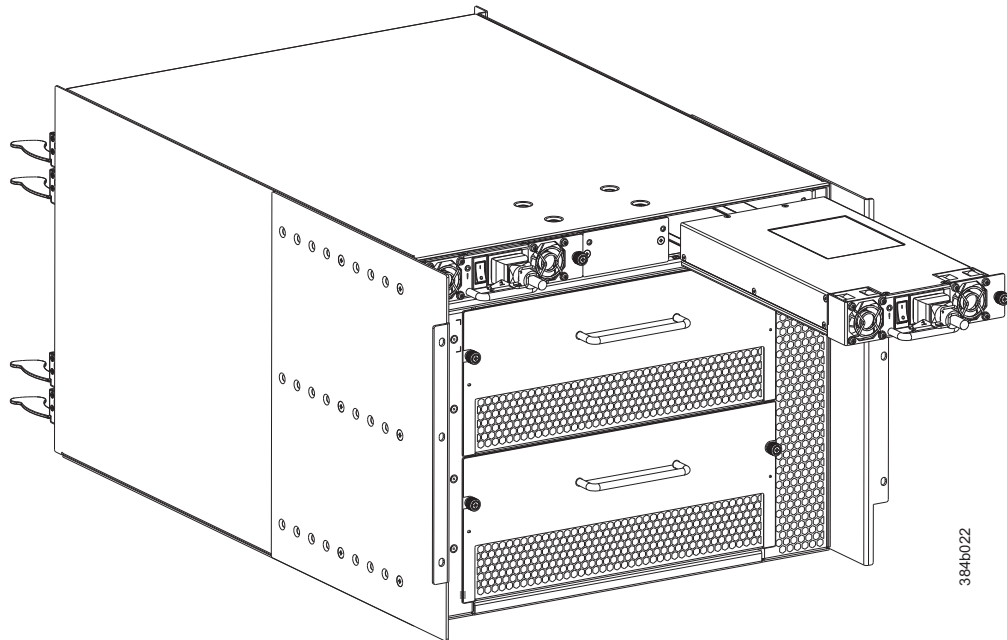

Figure 38. Removing and installing a power supply
5. Grasp the handle and pull, sliding the power supply from the chassis (see Figure 38). Support the power supply from beneath as you remove it.